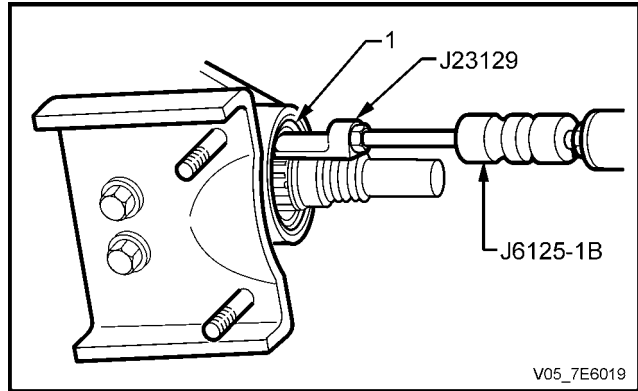

Figure 7E4 – 68
- 1 Install a NEW output shaft assembly retainer ('1' in Figure 7E4 – 70). Position the retainer over the end of the output shaft splines. The retainer will be installed to the correct depth when the output flange is installed.
- 2 Lubricate the lips of a NEW oil seal (1) then install onto the installation tool J 44765.